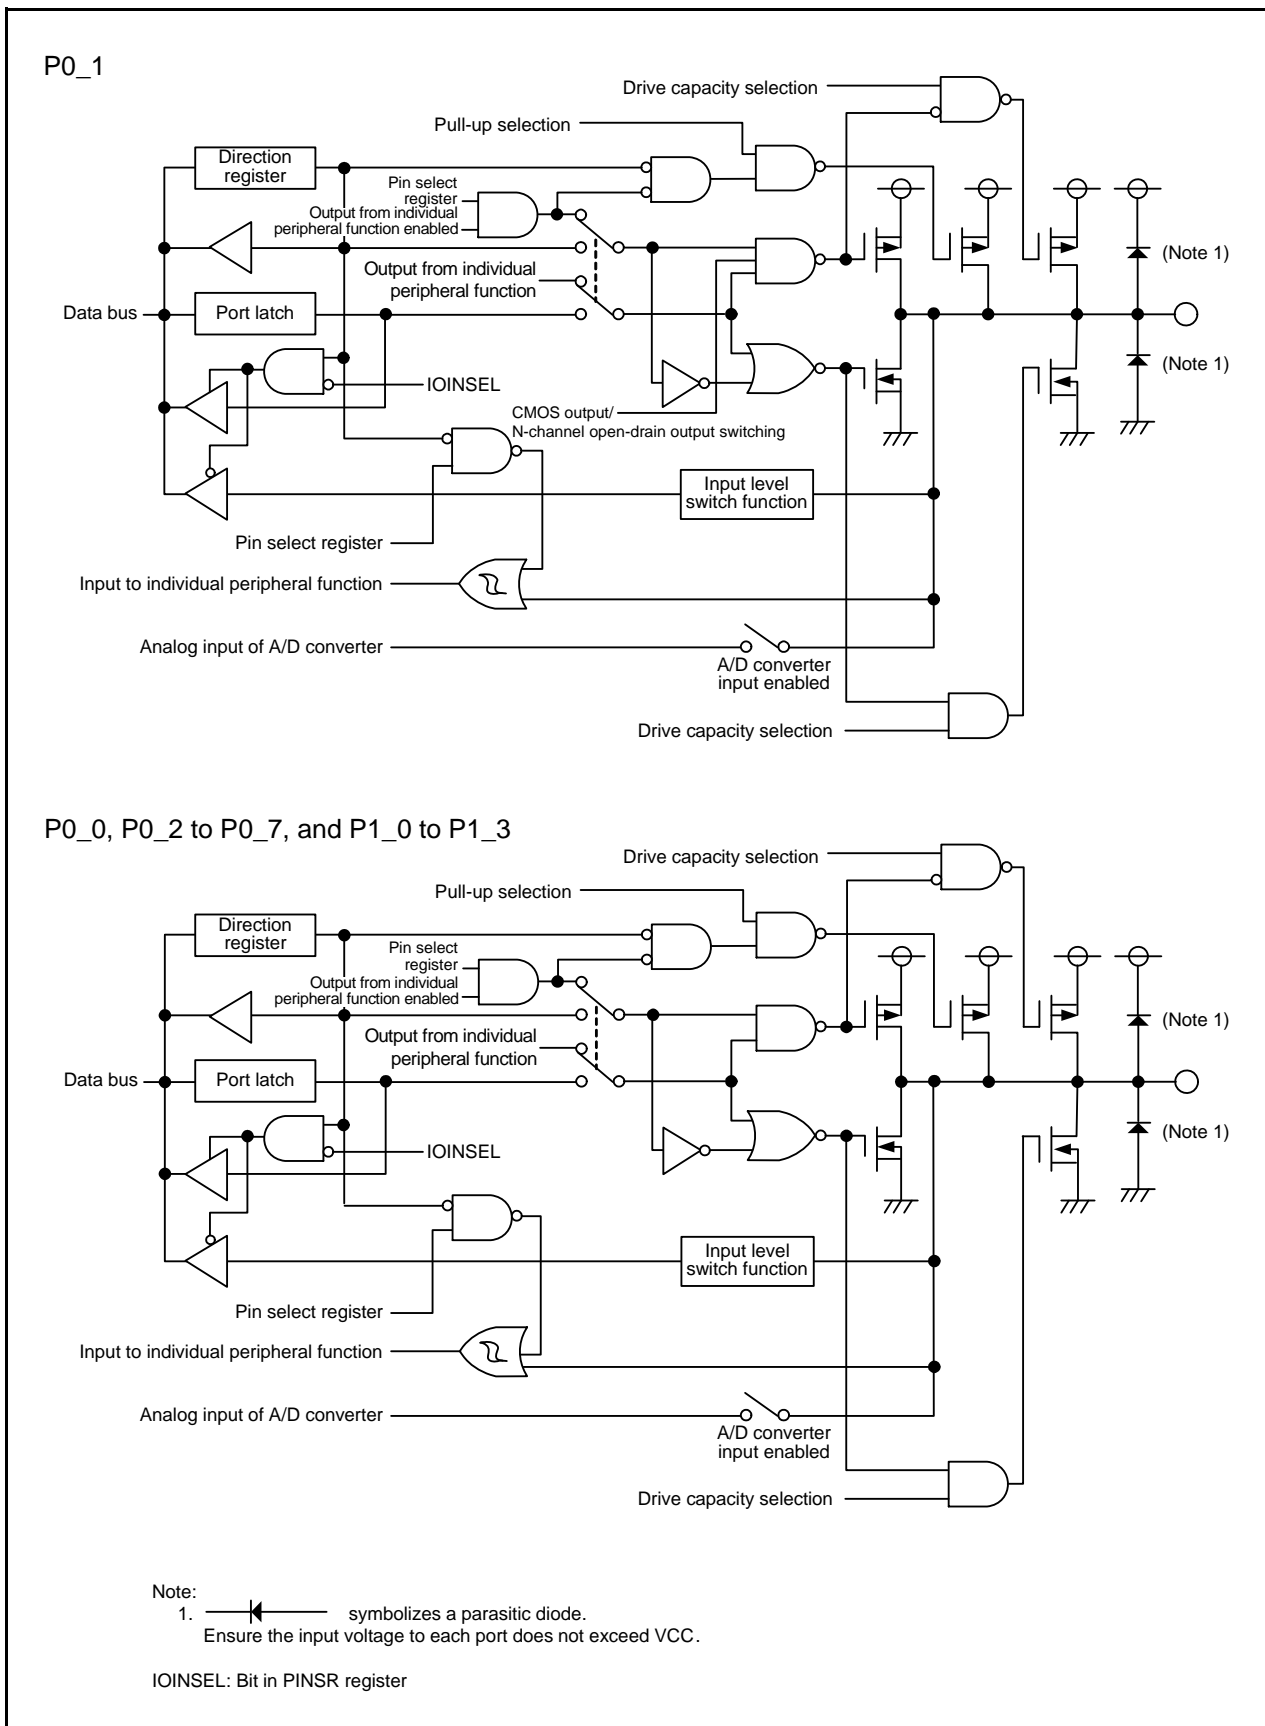

Figure 14.1 I/O Port Configuration (1)
Figure 14.1 shows the I/O Port Configuration (1) and Table 14.2 lists the I/O Port Functions.